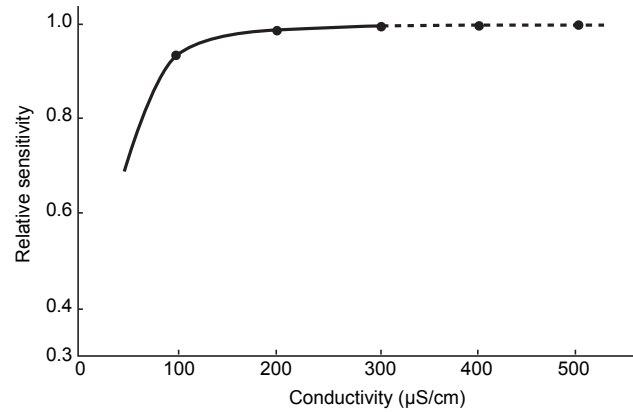

Figure 2.2 Sensitivity characteristics of diffusion current by conductivity
- Conductivity; 100 to 300 μS/cm (see Figure 2.2)